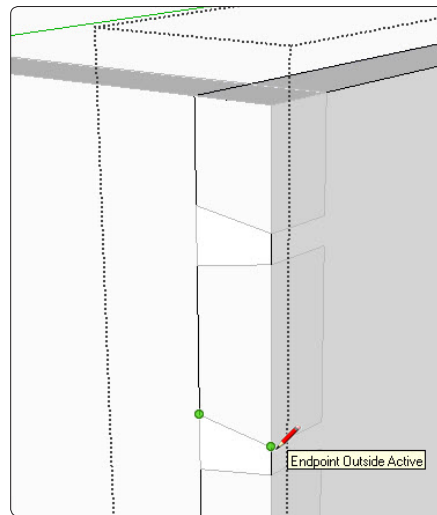

Figure 32. With the side component selected for editing, use the Line Tool to draw over the pin shapes on the edge of the component.
Step 11 Right-click on the side component and choose Edit Component from the pop-up menu. Use the Line Tool to trace over each angled edge of the pins, as shown in Figure 32.